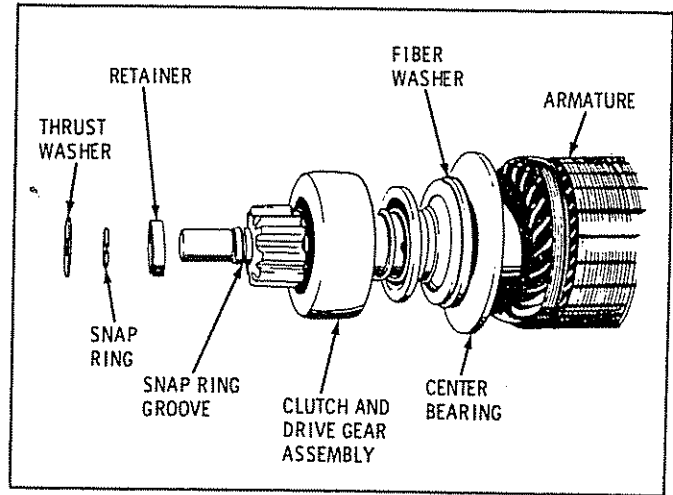

Fig. 6D-25s--Remove Thrust Collar
The starter solenoid switch is serviced as an assembly only. The cover can be removed to inspect the contacts and contact disc if necessary. (Fig. 6D-28s).
b. Install center bearing with bearing toward the armature winding. Then install the fiber washer on the armature shaft. Refer to Fig. 6D-26s.